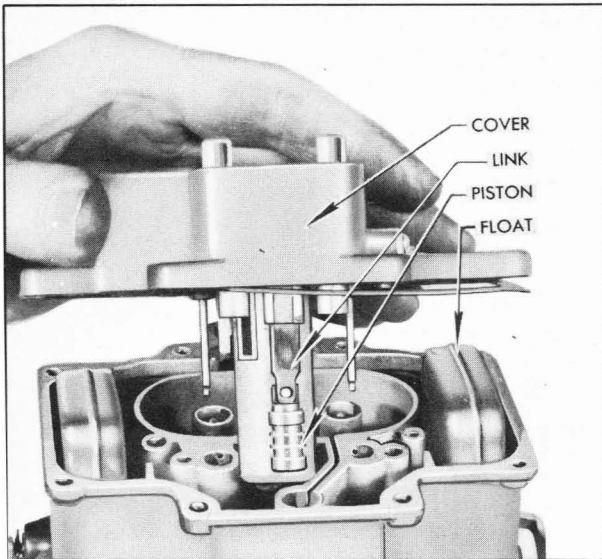

Figure 3-45—Removing Bowl Cover
9. Note the location of code tag and wire clips so that these can be reinstalled in their original positions, then remove bowl cover, using care to avoid damaging the float. See figure 3-45.